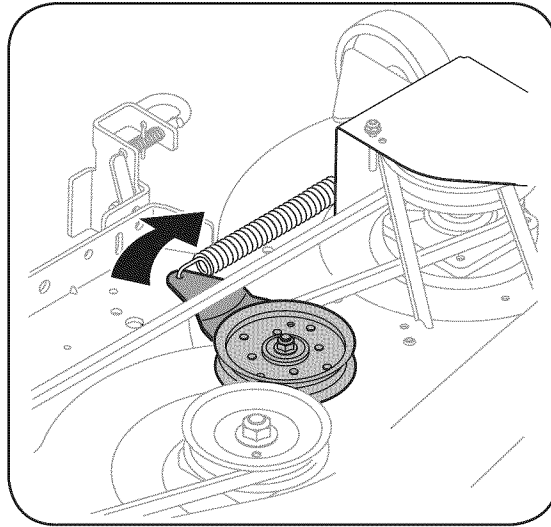

Figure 25
3. a. Grasp the rearmost portion of the PTO idler bracket and pivot it away from the discharge chute to relieve tension on the PTO belt. See Figure 25.